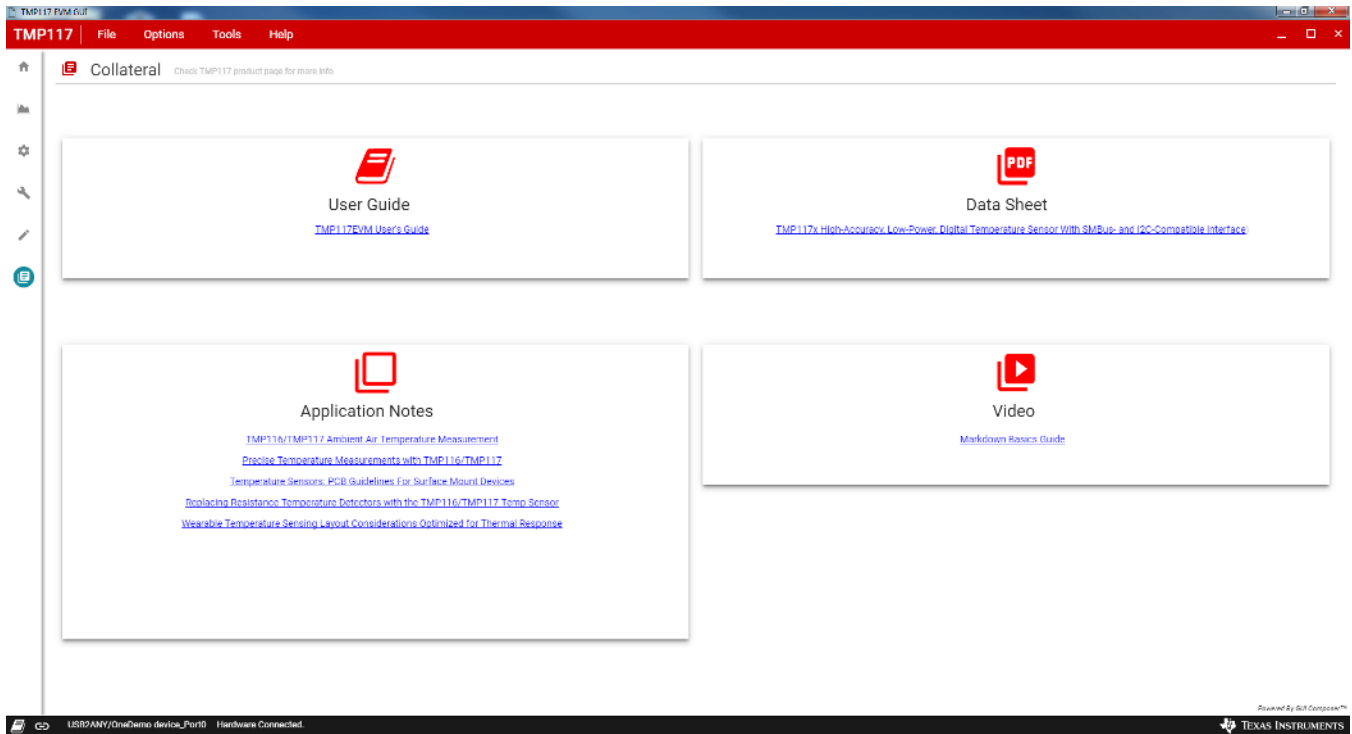

Figure 25. Collateral Tab
The last page of the GUI is the Collateral page in Figure 25 which contains links to web documents pertinent to the TMP117 and its EVM. The page is divided into four sections: (1) User Guide, (2) Datasheet, (3) Application Notes, (4) Video.